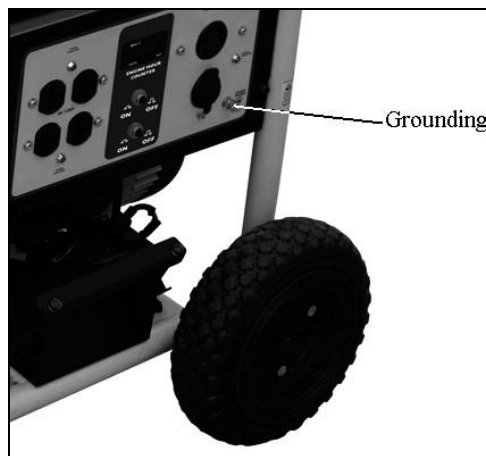

Figure 11- Grounding nut location
Ground the generator by tightening the grounding nut against grounding wire (see figure 11). A generally acceptable grounding wire is a No. 12 AWG (American Wire Gauge) stranded copper wire. This grounding wire should be connected at the other end to a copper or brass grounding rod that is driven into the earth. Wire and grounding rod are not included in generator contents.
2. Check that the generator is properly grounded (see Figure 11, “Ground the Generator”).
2. Check that the generator is properly grounded (see Figure 11 “Ground the Generator”).